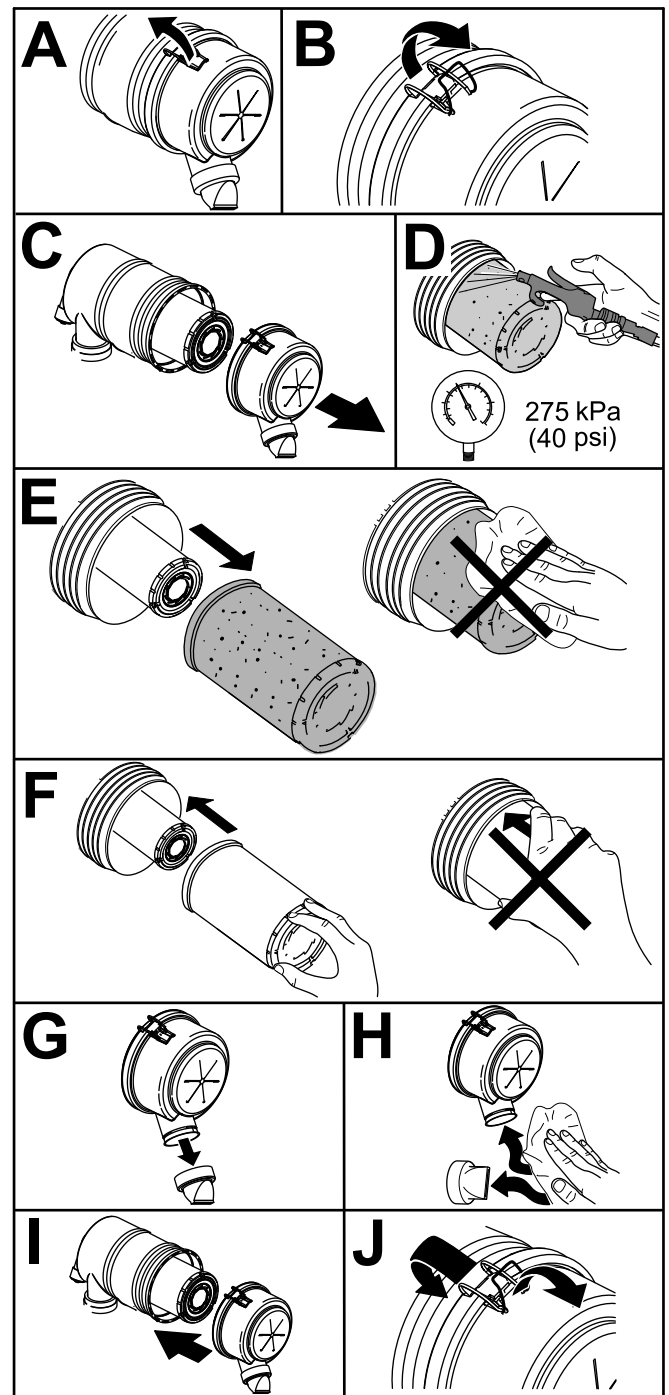

Figure 81
1. Replace the air cleaner (Figure 81).